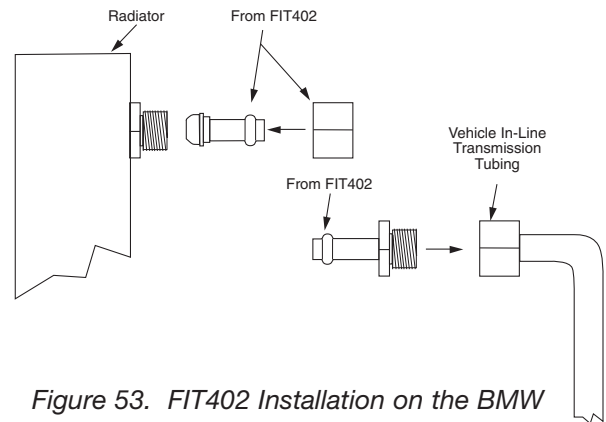

Figure 53. FIT402 Installation on the BMW
FIT402 is installed on the BMW as illustrated in Figure 53.
2. Use the fittings in FIT407 the same way as the fittings in FIT402 (see Instructions and Figure 53). Extra O-rings have been included with FIT407.